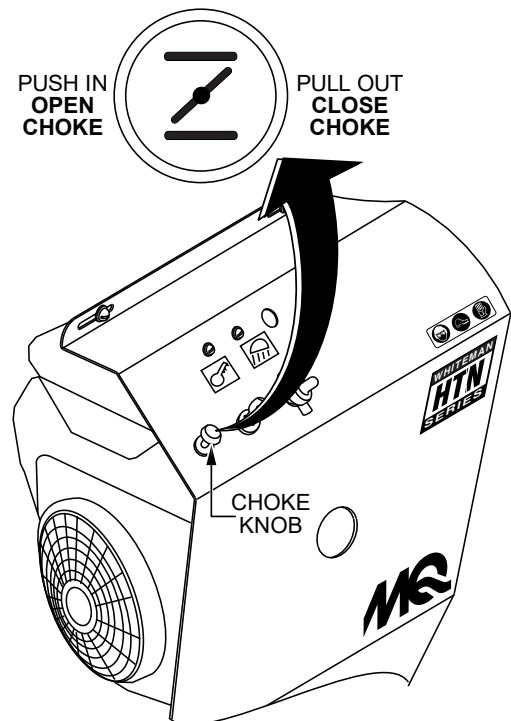

Figure 14. Choke Knob (HTN27 Only)
3. If starting a cold engine, pull the choke knob (model HTN27 only) out to the closed position. In warm weather or when the engine is warm, the unit can be started with the choke halfway or completely open. See Figure 14.